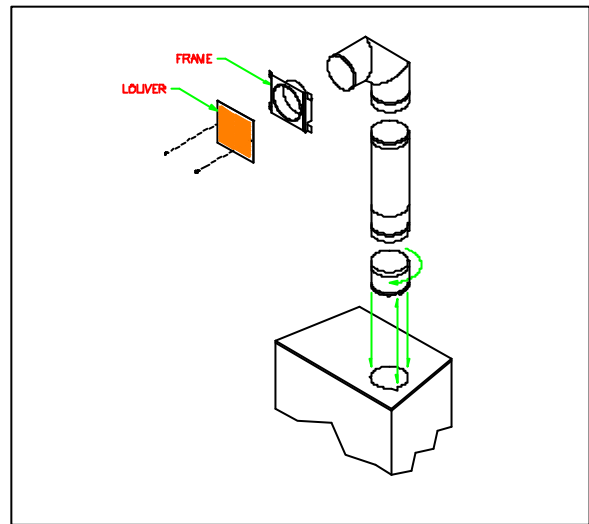

figure 17
2. Double hot air outlet including: (See Fig.17)